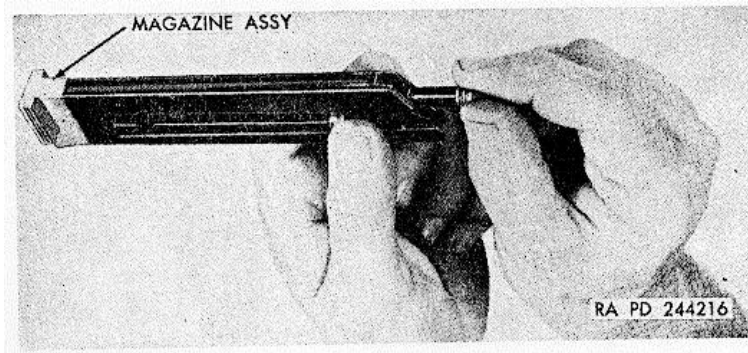

Figure 22. Loading a cartridge into magazine assembly.
e. *Magazine Assembly.* The magazine assembly (fig. 22) has a 9-cartridge capacity. It fits into a well at the bottom of the grip. The magazine follower (fig. 56) is made of cast aluminum.